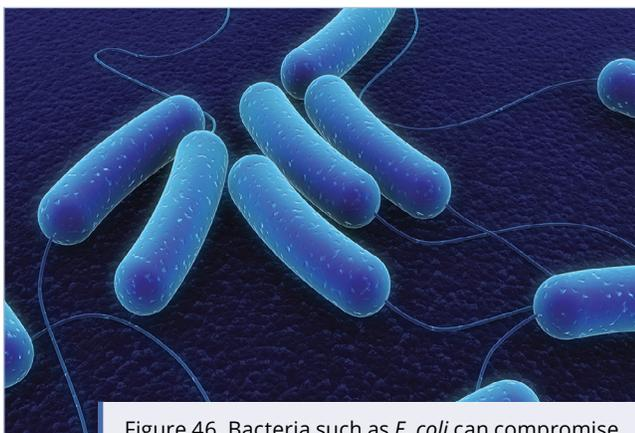

Figure 46. Bacteria such as *E. coli* can compromise human health and can indicate that other contaminants may also be present in groundwater.
- ▶ Bacteria such as *E. coli* O157:H7 (Fig. 46), *Salmonella*, *Campylobacter*, *Pseudomonas*, *Helicobacter*, *Aeromonas*, *Vibrio cholerae*, and *Shigella*